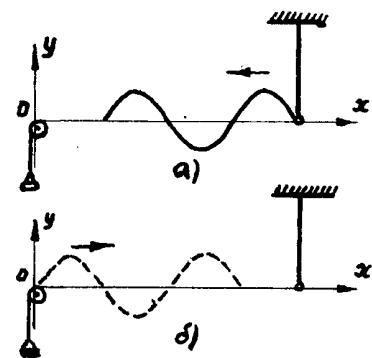

Figure 15 – Traveling elastic wave propagation in a thread:
All points of a thread will be behind vibrator's oscillations as much, as smaller will be x in chosen coordinate system (Fig. 15). That is why equation (68) is equation of incident plane travelling wave, and (69) – equation of reflected wave. Minus sign before kx in reflected wave equation means that phase of oscillations of each thread's point in reflected wave as smaller as far this point is from origin of coordinates. Besides, as point O immovable, phase of reflected wave will be deferent at that point from phase of incident wave on π .